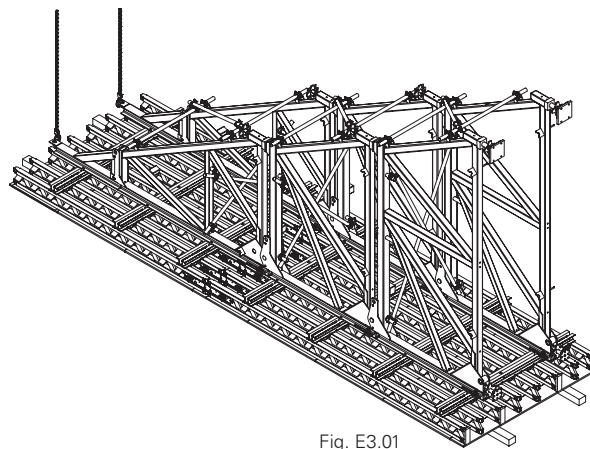

Fig. E3.01
2. Set the unit down on squared timbers. (Fig. E3.01)